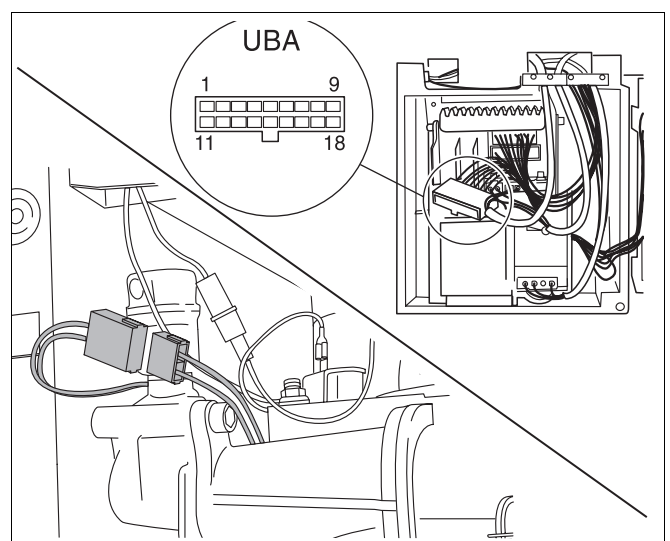

Fig. 66 600 Series 11S / 19S / 24S / 24C:
- Use a continuity tester to check the cable between the plug-in connection and the 18-pin plug in the UBA. The test should be carried out on connections 06-18 and 08-18 (fig. 66).